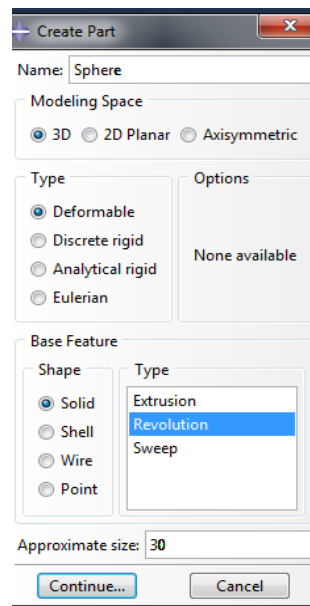

Figure L1a-1. Create part dialog box.
2. From the main menu bar, select **Part**→**Create** to create a new part. In the **Create Part** dialog box that appears, Figure L1a-1, name the part **Sphere**, and specify an approximate size of **30**. Accept the settings of a three-dimensional, deformable body with a solid, revolution base feature. Click **Continue**.